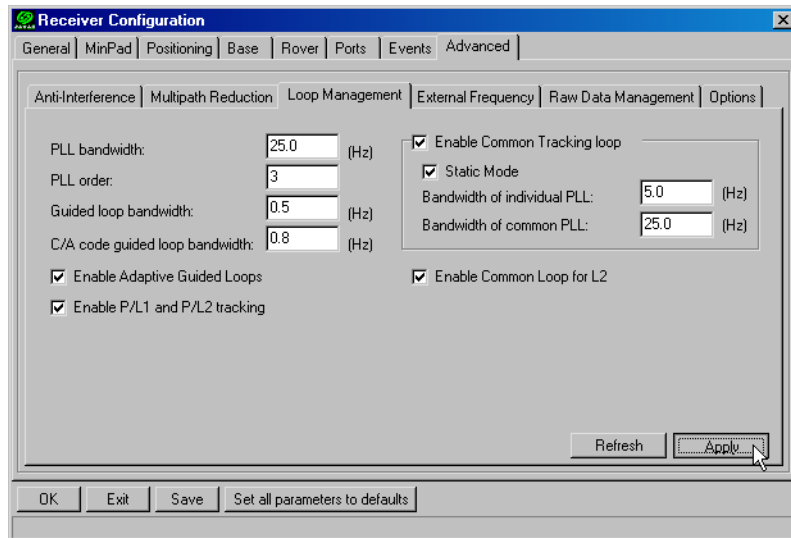

Figure 3-7. Advanced->Loop Management
4. Click the **Loop Management** tab and set the following parameters, then click **Apply** (Figure 3-7 on page 91):